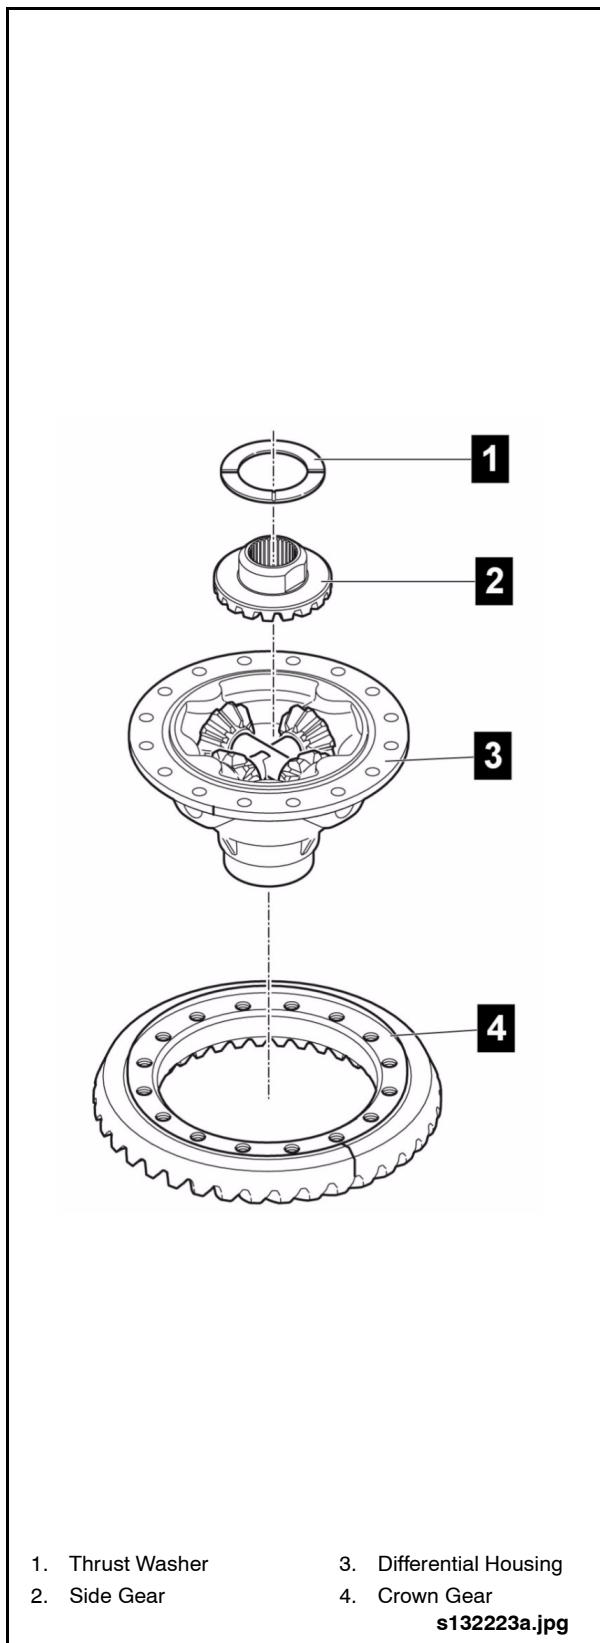

Fig. 2-61: Differential Side Gear
1. Remove the differential side gear and thrust washer from the differential housing. See "Fig. 2-61: Differential Side Gear" on page 52.